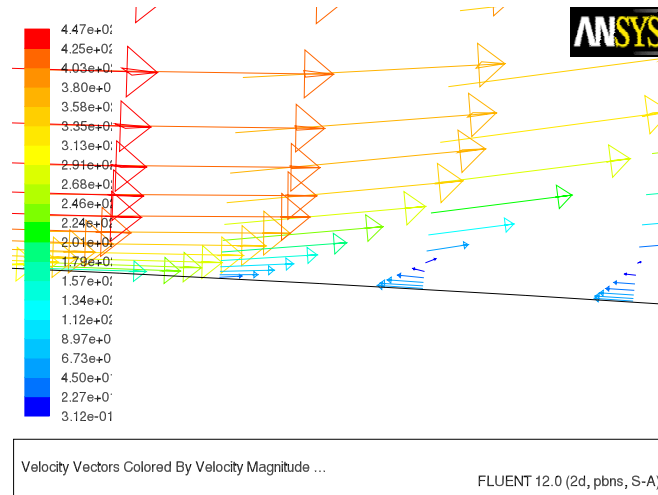

Figure 3.16: Plot of Velocity Vectors Downstream of the Shock
6. Plot velocity vectors (Figure 3.16).
- (c) Zoom in on the flow above the upper surface at a point downstream of the shock, as shown in Figure 3.16.
Flow reversal is clearly visible in Figure 3.16.